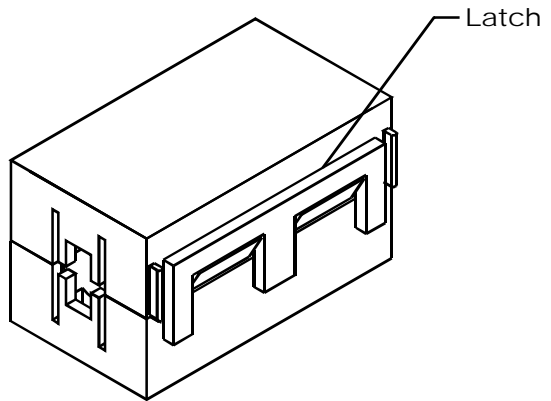

FIG. 3-16 EMI SUPPRESSION CORE
- Step 3. To open the suppression core place a small slotted screwdriver behind the latch and pry the latch away from the body of the core until it clears both catches. (See Fig. 3-16)